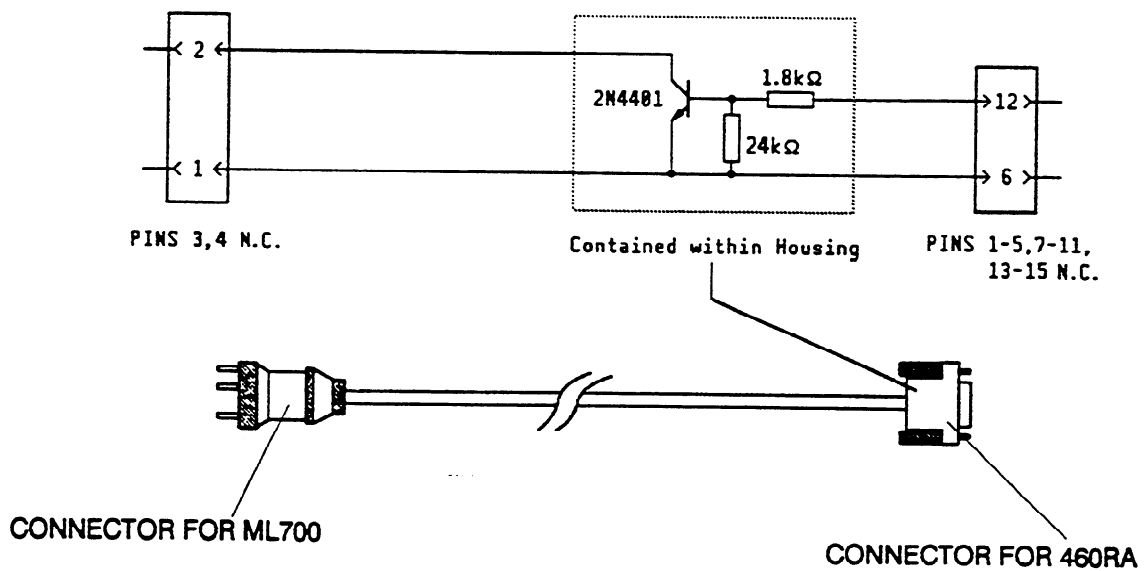

figure 2
- 3 Connect the PROCESSOR INTERFACE CABLE 9197308 (ML 700 - 460RA) to the PROCESSOR INTERFACE RECEPTACLE. Connect the other end (AMP PLUG) to the ME-3 CONNECTOR on the ML 700. See figure 2,3 and 4.